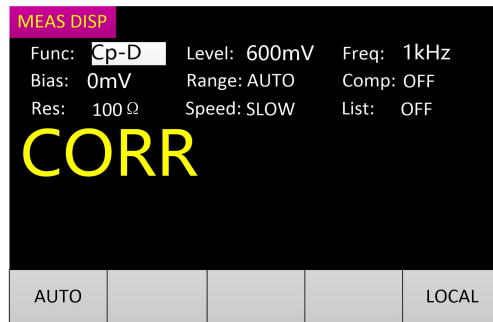

Fig.4-17
Step 1: Press the  key to enter the correction interface. The interface is as shown in Fig.4-17. If you do not want to perform correction, press the Main parameter function key  to exit. In this mode, only the  key and the Main parameter function key  are valid. (Open circuit: OPEN, short circuit, SHORT, neither: ERROR). Connect the test fixture to the gold plated short circuit board (short circuit) or disconnect the outside of the fixture (open circuit).